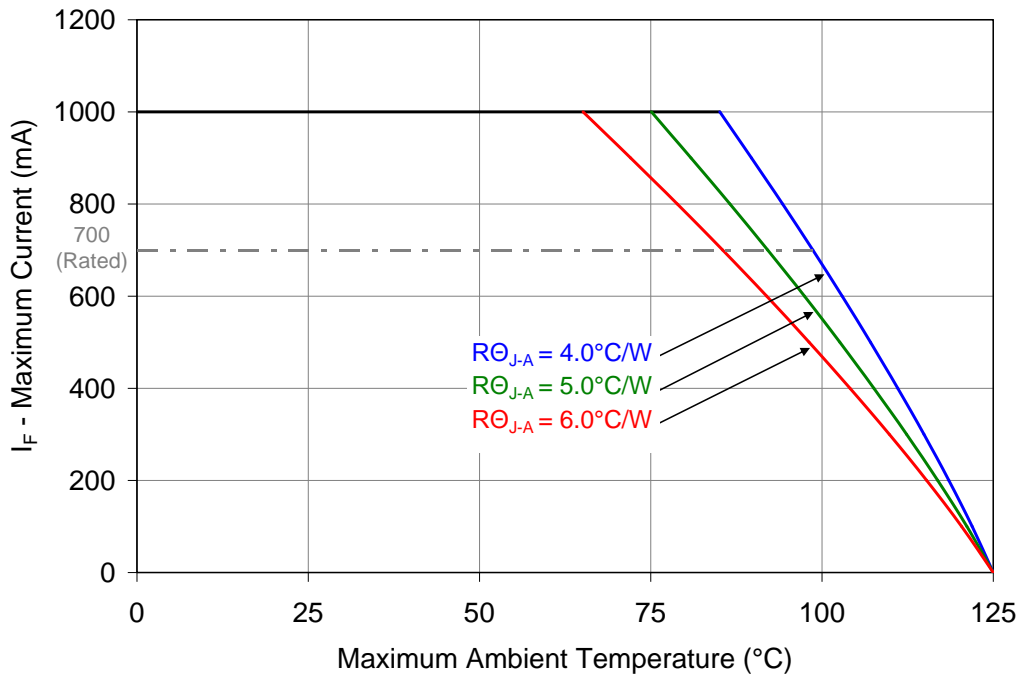

Figure 10: Maximum forward current vs. ambient temperature based on TJ(MAX) = 125°C.
- Maximum DC forward current (per die) is determined by the overall thermal resistance and ambient temperature. Follow the curves in Figure 10 for current derating.
Notes for Figure 10: